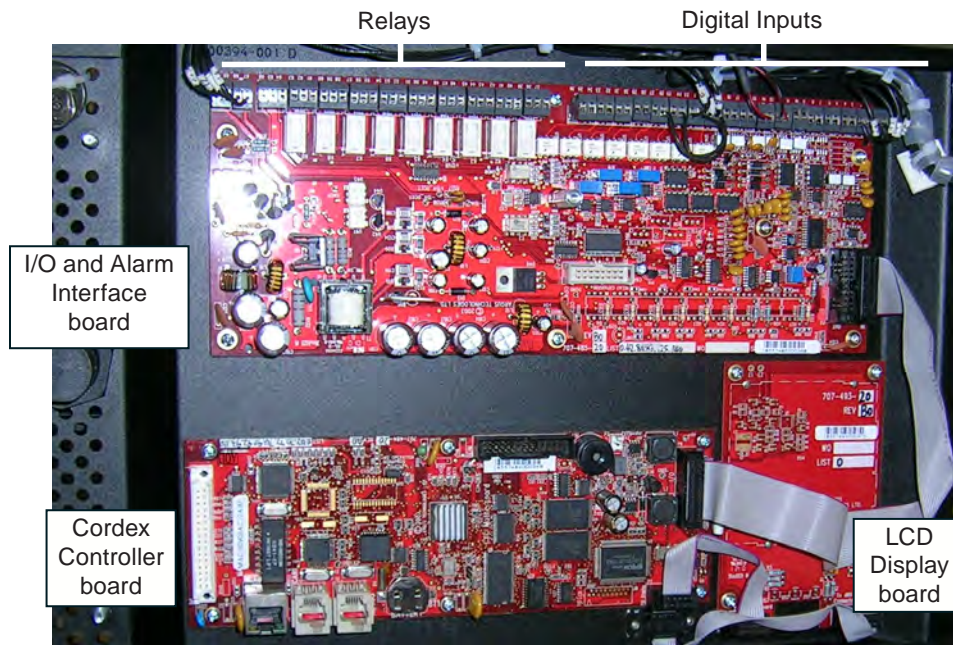

Figure 22 — I/O and Alarm Interface board
- Connect the inter-BDFB cable to the terminal block of the I/O and Alarm Interface board (Figure 22).